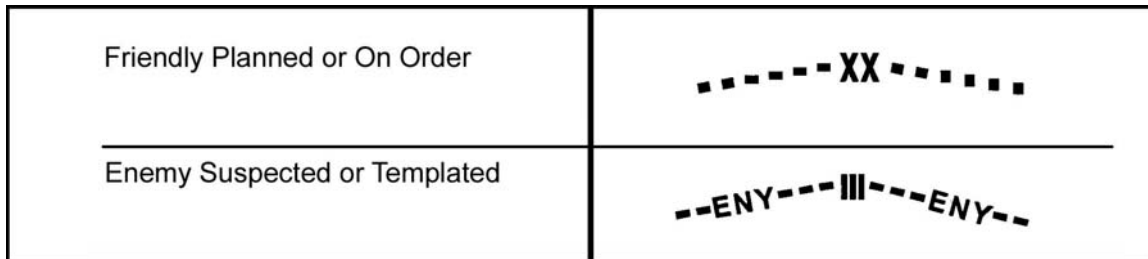

Figure 2. Proposed boundary.
- (4) Drew boundaries were drawn along terrain features easily recognizable on the ground, and were situated, if possible, so that the key terrain features, avenues of approach, and river were wholly inclusive of the one unit. They are shown by a solid line if presently in effect or made effective by the order being prepared. Their use was based on the techniques and tactics peculiar to the type of tactical operation in which they were used.
- (5) Drew future or proposed boundaries were shown by a broken line and were labeled to indicate the effective time, if appropriate (Figure 2).